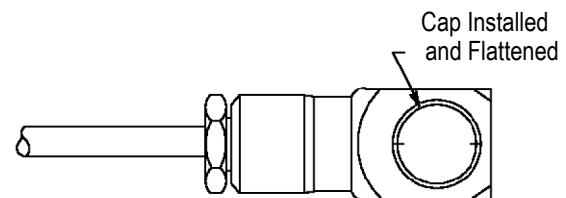

Figure 3
6. Insert the cap into the plug body, and flatten to retain. See Figure 3.